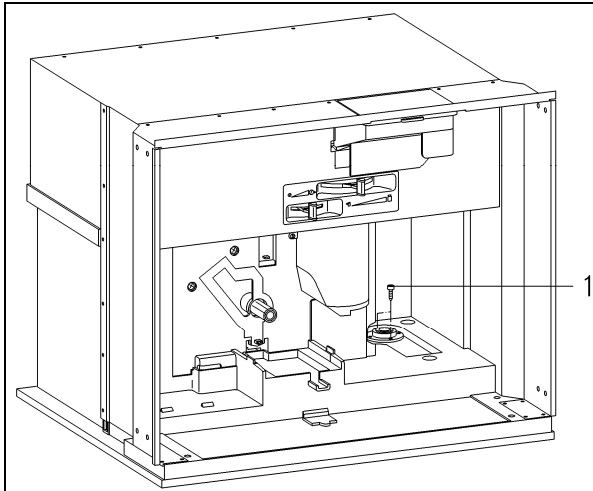

Figure 5-44: Valve Screws
4. Remove the lower part of the valve retaining screws (Figure 5-44, Item 1).